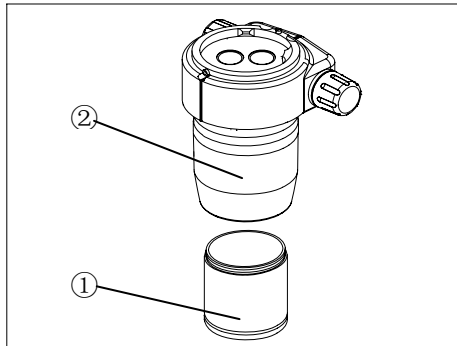
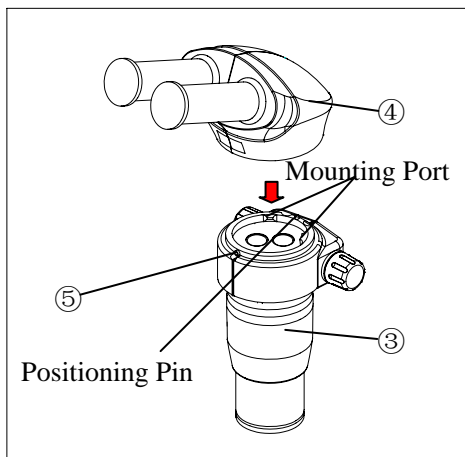

Fig.1
Fig.2
2.2.1 Mounting binocular viewing head (Fig.1、 Fig.2)
1. Rotate the objective① into the objective mount thread on the lower end of the zoom body. ② , as ③ in fig.2.
2. Aligning the positioning pin of the zoom body③ to the positioning groove on the binocular viewing head ④, insert the dovetail mount at the bottom of the viewing head into the mounting port on the zoom body ③, and tighten the viewing head clamping screw⑤ with provided hexagonal driver.